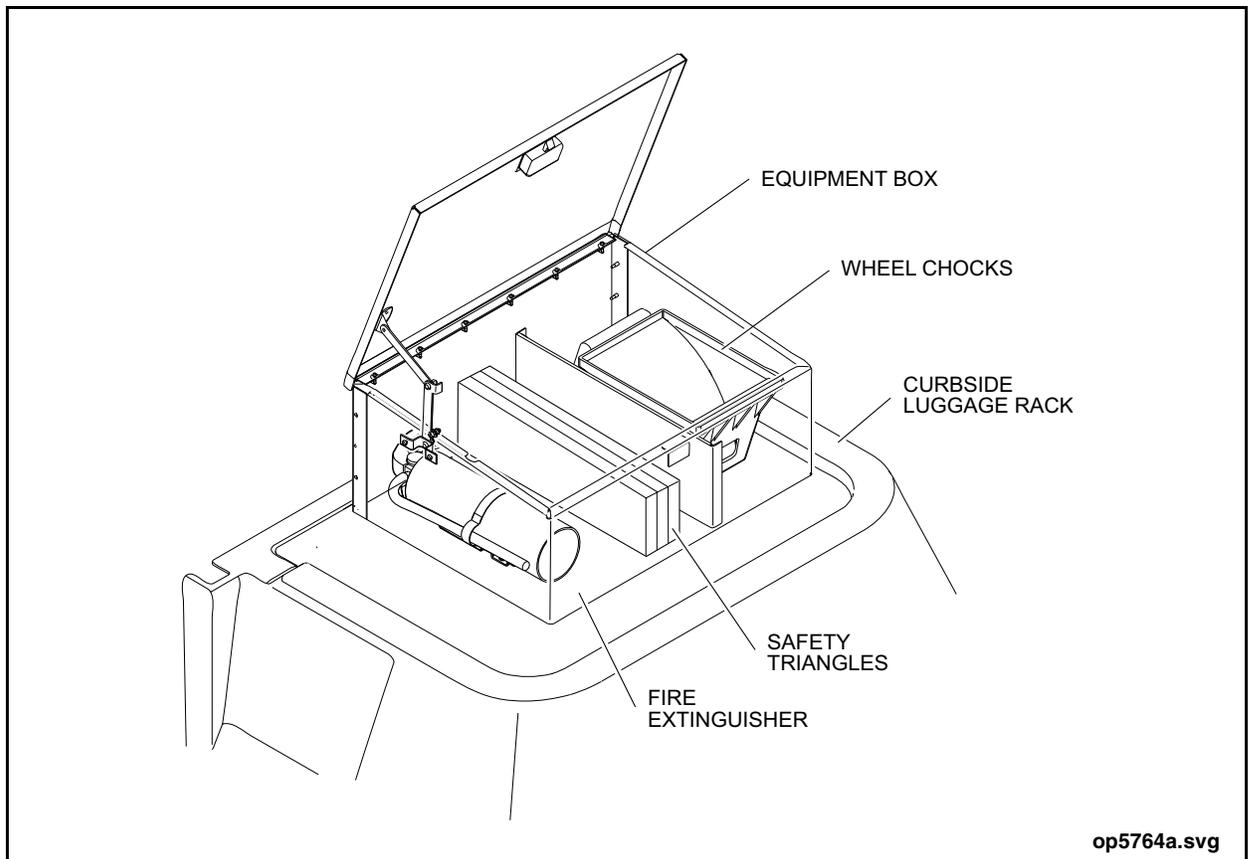

Figure 6: Safety Equipment - 1
- Hand-held fire extinguisher - Use the extinguisher only after the vehicle is in a safe location, and all passengers are evacuated. Use only if there is no risk to your personal safety. See “Figure 6: Safety Equipment - 1” on page 19.